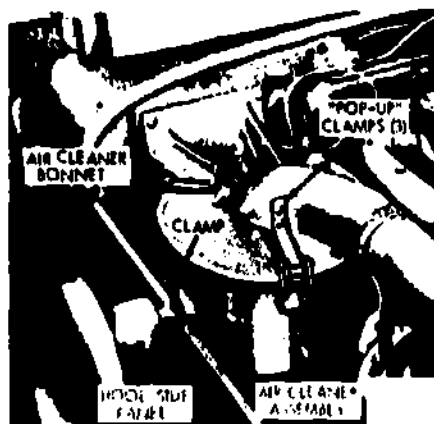

Fig 4-20. Air cleaner.
a. Service the air cleaner (fig 4-20). Use the following procedures to service or replace a dry-type air cleaner filter element: (1) Loosen the clamp securing the air cleaner bonnet and remove the bonnet. The air cleaner bonnet is also commonly called the rain hood. (2) Release the hood side panel latches and lower the side panel. (3) Release three "pop-up" type clamps securing the air cleaner to the air cleaner support bracket. (4) Lift the air cleaner from the engine compartment. (5) Then lift the dry-type filter cleaner from the air cleaner. (6) Use compressed air to clean the element. (7) Replace the element if it is damaged in any way that will allow unfiltered air to enter the engine. (8) Assemble the air cleaner in the reverse order of removal. Procedures and requirements must be in accordance with instruction in individual TMs.